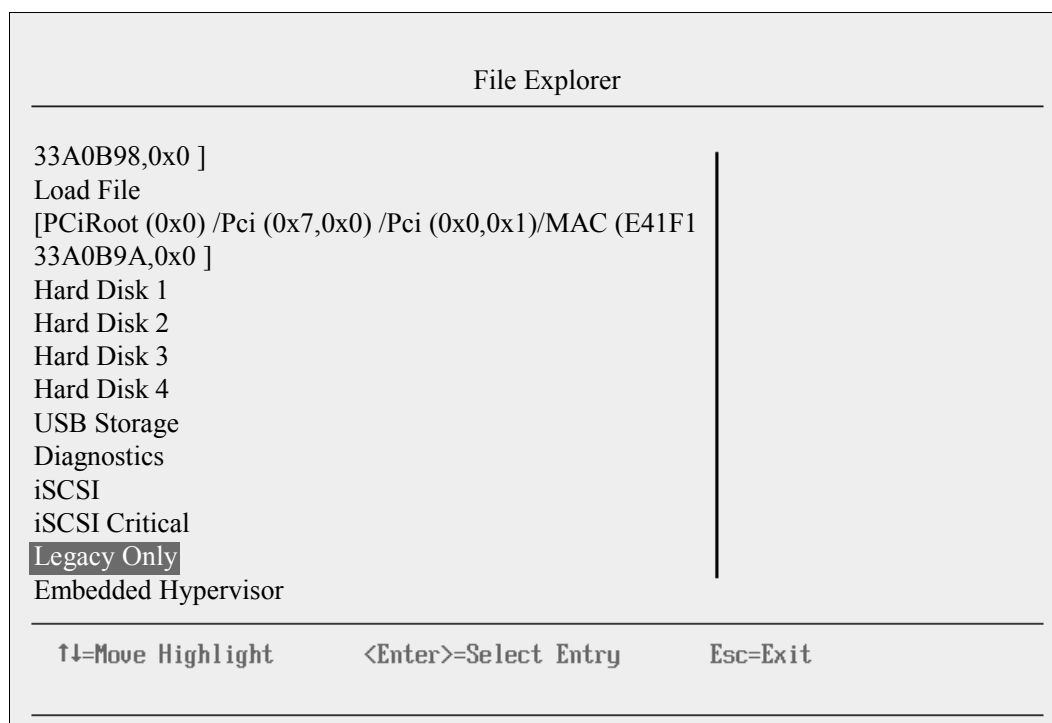

Figure 9-102 File Explorer panel
4. In the File Explorer panel (Figure 9-102), highlight **Legacy Only**, and press Enter.